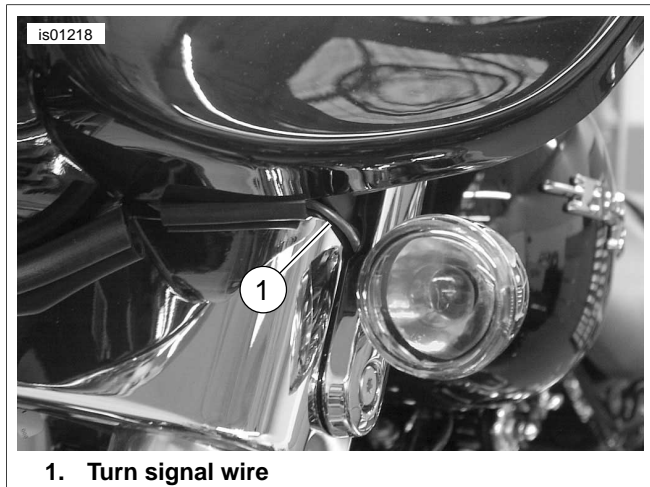

Figure 3. Turn Signal Wire Routing
1. See Figure 3. Insert turn signal connector and wiring between bottom of fairing and top of outer fairing skirt.